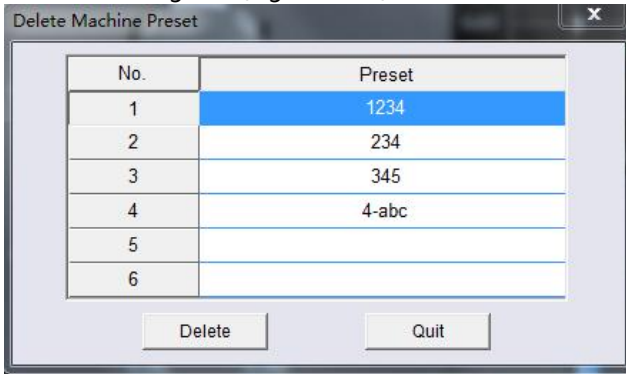
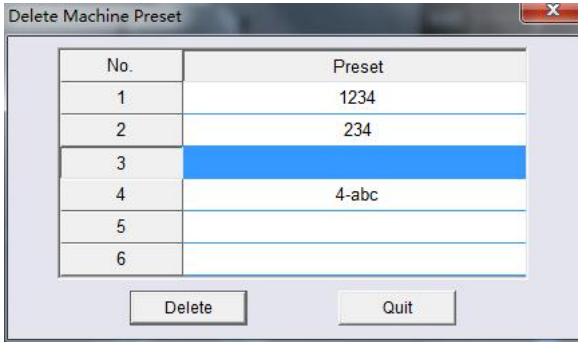

Figure 3.4.8
Figure 3.4.10
Step 2: Click the "Delete machine preset " after deleting the item will pop machine preset scene window dialog box (Figure 3.4.8).
Step 4: the dialog as shown in "Yes" on figure 3.4.8 to confirm the deletion, machine delete preset scene is complete, and can see the machine preset number 3, there is no name (Figure 3.4.10).